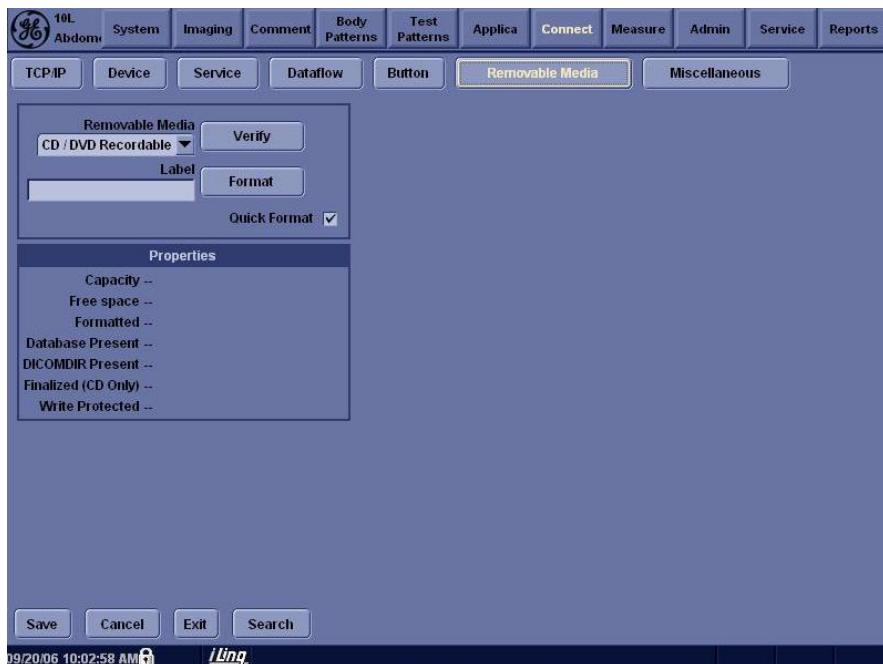

Figure 4-31 Format and Verify Media
- 4.) Enter the label for the media as shown in Figure 4-31. It is best to use all capital letters with no spaces or punctuation marks.
- 6.) If desired, verify that the format was successful by returning to Utility>Connectivity>Tools (in case of BT05 SW, Removable Media) and selecting VERIFY as shown in Figure 4-31.